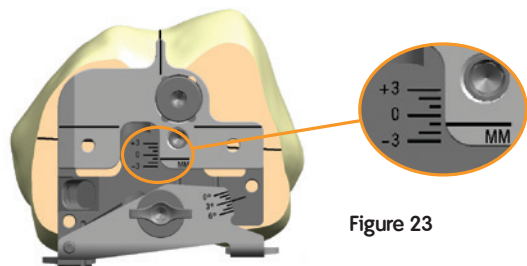

Figure 23
- If there exists a known flexion/extension imbalance, unlock, translate and relock the drill guide appropriately (Figure 23).